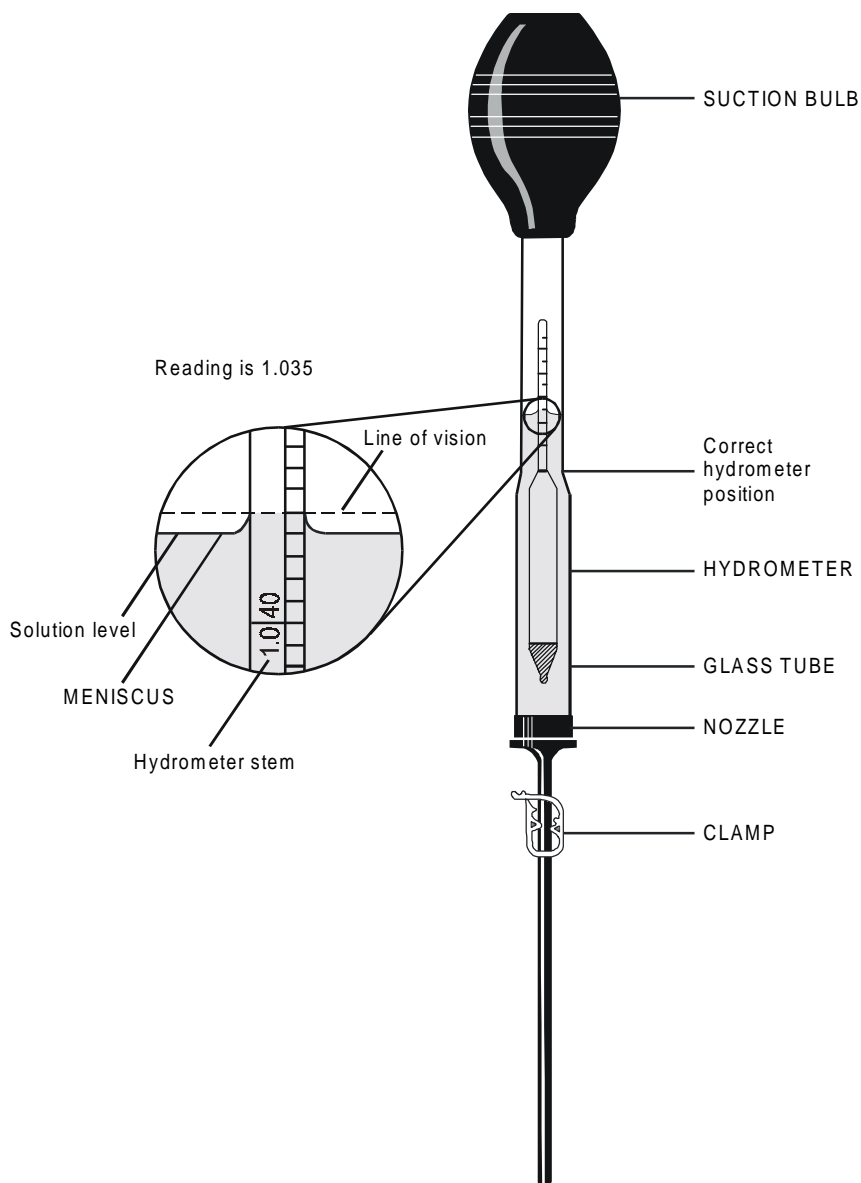

Figure 2
1. Insert the **HYDROMETER—stem first**—into the **GLASS TUBE** through the lower end; see Figure 2.
As soon as the bottom of the hydrometer stem reaches the narrow section of the glass tube (see Figure 2), close the clamp on the nozzle so that the solution remains in the tube. Release your grip on the suction bulb. The amount of solution that you draw into the tube will depend on the specific gravity of the solution, so the solution level in the tube will be different for different solutions.
5. To make the measurement, hold the set so that the solution is at eye level. Read the number on the hydrometer at the top of the MENISCUS; see the enlarged portion of Figure 2.